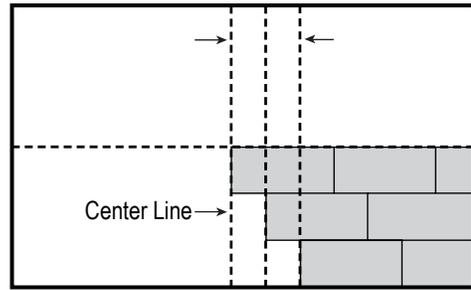

Fig. 5 - Ashlar layout starting lines.
- A square layout with all 4 corners lined up is not recommended. For Ashlar layouts additional chalk lines will be required to establish starting locations in each row (Fig. 5).